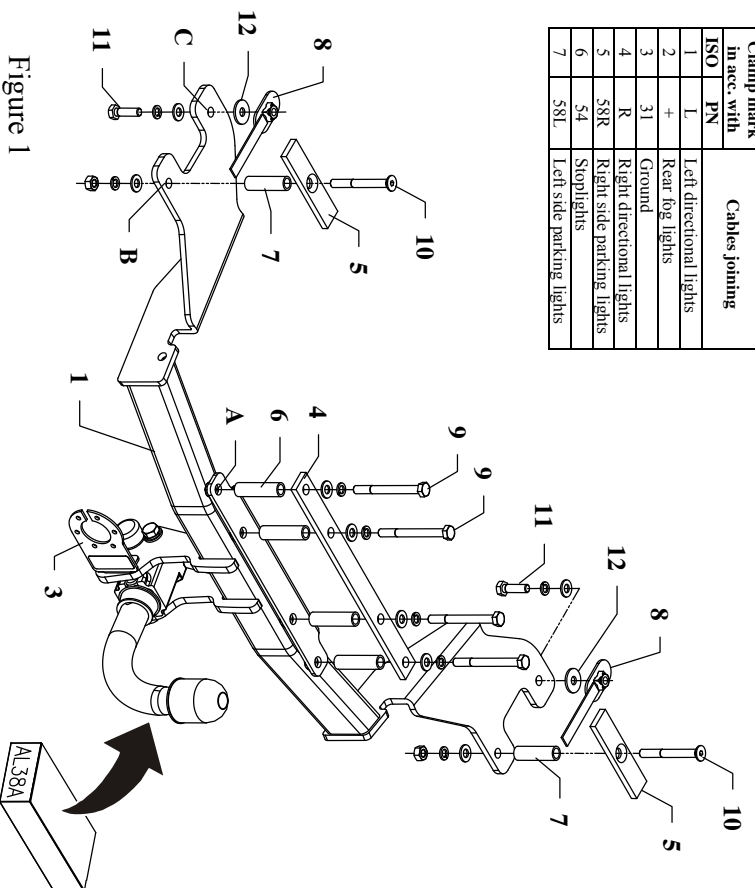

Figure 1
6. Put main bar of the towbar (pos. 1) to chassis in this way so holes A agree with holes drilled in metal beam. Inside trunk put distance sleeves (pos. 6), Apply central fish-plate (pos. 4) and fix loosely by bolts M10x100mm (pos. 9) as shown on figure 1.
9. From trunk side put distance sleeves (pos. 7) and fish-plates (pos. 5) and bolts M10x90mm (pos. 10). Fix loosely.
10. Through existing holes in chassis members put nuts on the jibs (pos. 8) and fix in points C using bolts M10x35mm (pos. 11) as shown on figure 1.